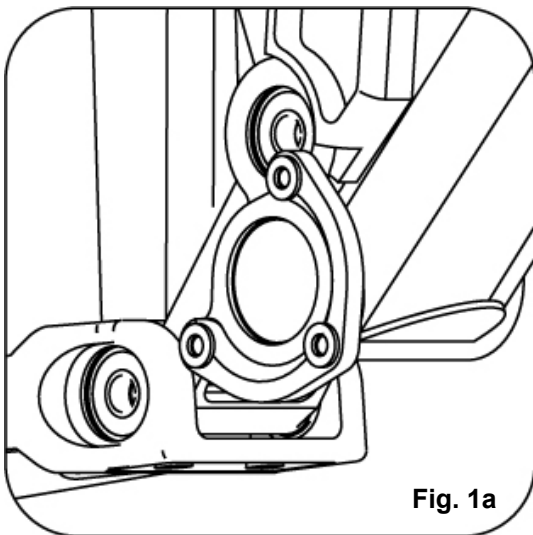

Fig. 1a
3) Fit up the ISCG mount flange to your frame. For installation on a 2002-2003 Santa Cruz V10, the counter bored area cups away from the bottom bracket shell. See **Fig. 1a and 1b**. The V10 uses a 128 mm spindle length ISIS BB. The 128mm BB will give best chainline. If you are unable to purchase a 128 mm spindle BB, a 122.5mm BB can be used with a 1.5 mm BB spacer between the ISCG mount flange and BB shell. Use your flanged fixed cup type bottom bracket to sandwich the ISCG mount flange against the flat face of the bottom bracket shell. The open side of the flange should be facing the 10 o'clock position. See **Fig. 1a and 1b**. for ISCG mount flange orientation.
7) Mount the entire slider/back plate assembly to the ISCG mount flange using the on of the 2 sets of three equal length M6 flathead screws. The two lengths of screws that are included with your chainguide are for use with the appropriate number of washers. For the V10, space the back plate away from the ISCG mount using ONE set of the supplied washers as shown in **Fig. 1a and 1b**.
All Santa Cruz V10 frames with a 128 mm BB spindle will use ONE WASHER in between the ISCG mount and back plate as shown in Fig. 1a and 1b.